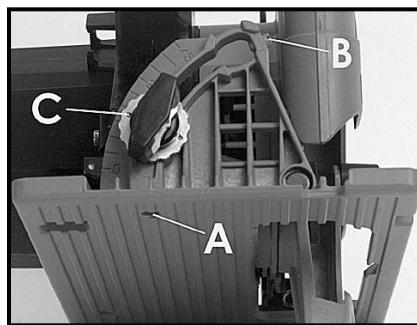
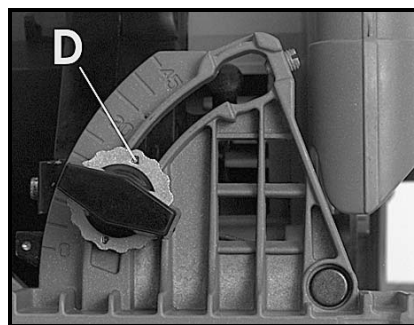

Fig. 6
Fig. 6A
The saw is equipped with adjustable positive stops at both 90° (A) Fig. 6, and 45° (B) Fig. 6. It is recommended that the accuracy of these stops be checked periodically and adjustments be made as necessary. These procedures are explained fully in the following sections of this manual.
This saw can be adjusted for bevel cuts of up to 3° beyond the positive stop at either the 45° or the 90° position. In normal operation the bevel stop sleeve (C) Fig. 6, is aligned as shown in Fig. 6. To adjust the saw for a bevel cut beyond the normal 45° to 90° range:
4. Pull out on the bevel stop sleeve (C) Fig. 6. Rotate sleeve to the position shown in Fig. 6A and push sleeve back in.
NOTE: The bevel stop sleeve must be returned to the normal position (see Fig. 6), before the saw can be adjusted for a bevel cut of between 45° and 90°.
2. Set bevel stop sleeve to normal position (see Fig. 6).
5. If adjustment is necessary, loosen bevel adjustment knob, keeping bevel stop sleeve in contact with stop screw, turn stop screw (see Fig. 6) until squareness is obtained.
5. If adjustment is necessary, loosen bevel adjustment knob and turn stop screw (see Fig. 6) until angle is correct.